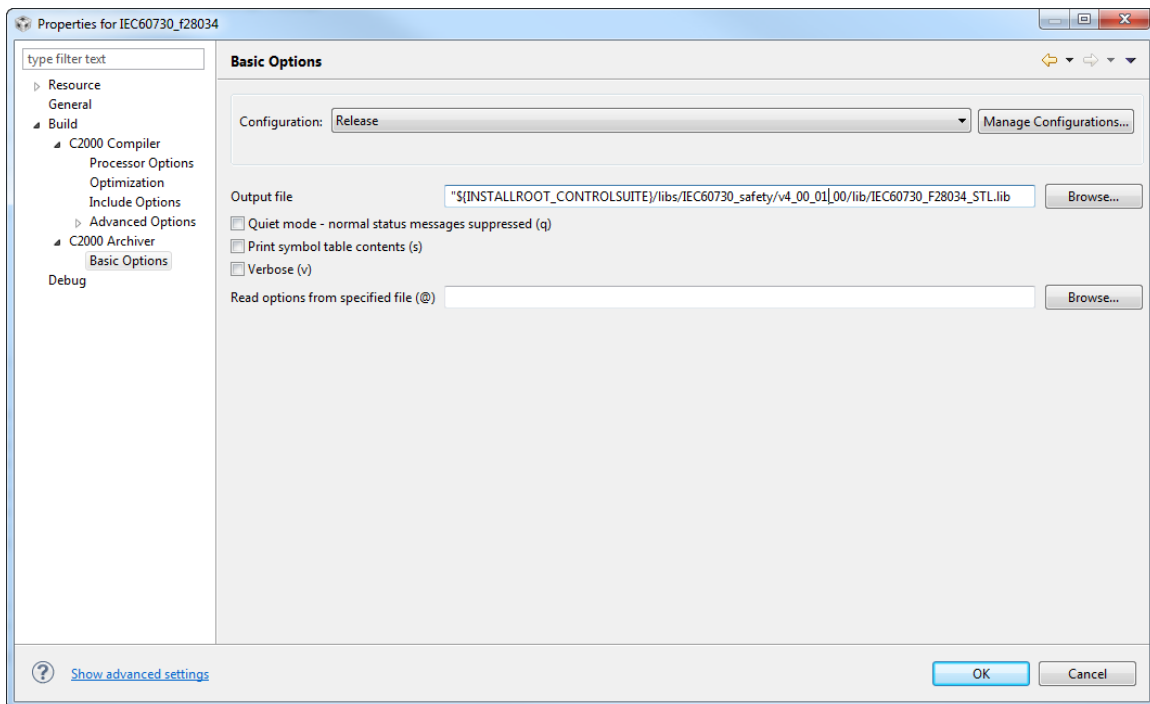

Figure G.3: Setting Library Output name and Directory
8. Click on **Projects** menu > click on **Properties** > expand to **Build** > **C2000 Archiver** > **Basic Options**. In the **Basic Options** in **Output file** text box type in the name of the library and the directory to place the library. For instance if building for f28034, enter **"\${INSTALLROOT_CONTROLSUITE}/libs/IEC60730_safety/v4_00_01_00/lib/IEC60730_F28034_STL.lib"** > click **OK**. This will set the name of the library and the directory it will be placed after it is built. See figure G.3.